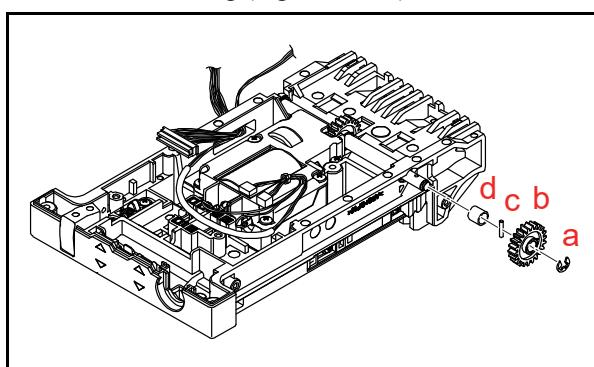

**Figure 4-29** Flap Motor Harness Assy. Removal (RT Frame Unit) 2
2. Remove the Worm Wheel (Figure 4-29 a) and the Worm Gear (Figure 4-29 b).